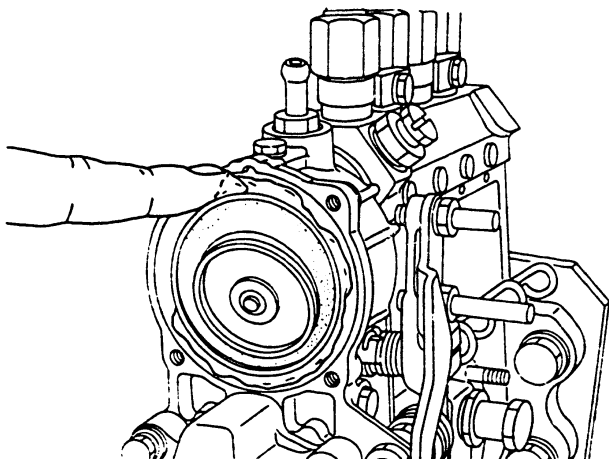

Fig. 52 Applying grease
3. Apply grease to the contact surfaces and caulking of the diaphragm to prevent leakage of air. (Fig. 52)